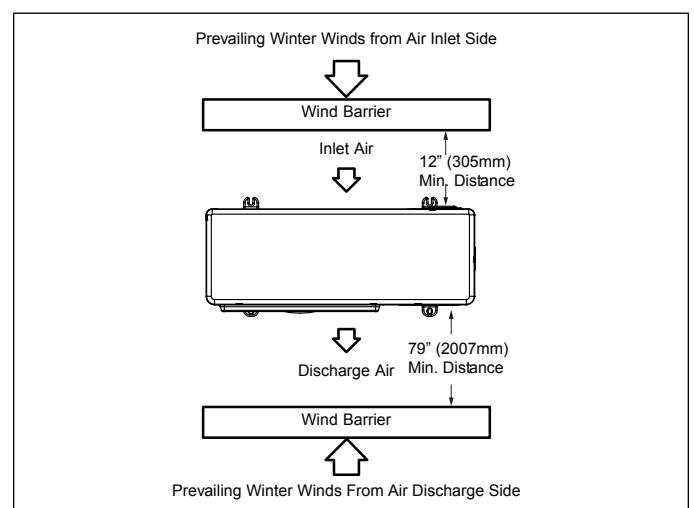

Figure 19. Wind Barrier
- When prevailing winds are from the air inlet side, then position the wind barrier a minimum of 12 inches (305 mm) from the unit as illustrated in “Figure 19. Wind Barrier”
- When prevailing wind is into the discharge side, then position the wind barrier a minimum 79 inches (2007 mm) from the front of the unit as illustrated in “Figure 19. Wind Barrier”